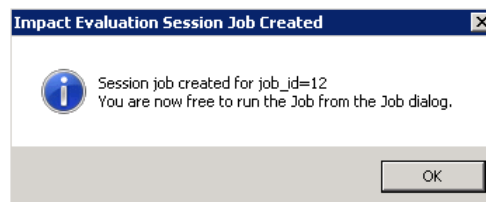

Figure 8-13 Impact Evaluation Session Job Created Message Box
4. A message will appear confirming that the session job was created (Figure 8-13).